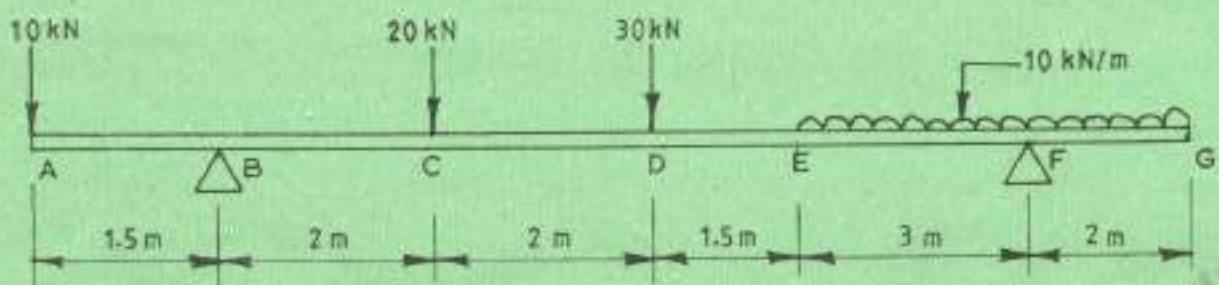

Fig. 2
4. Figure 2 shows a loaded beam: